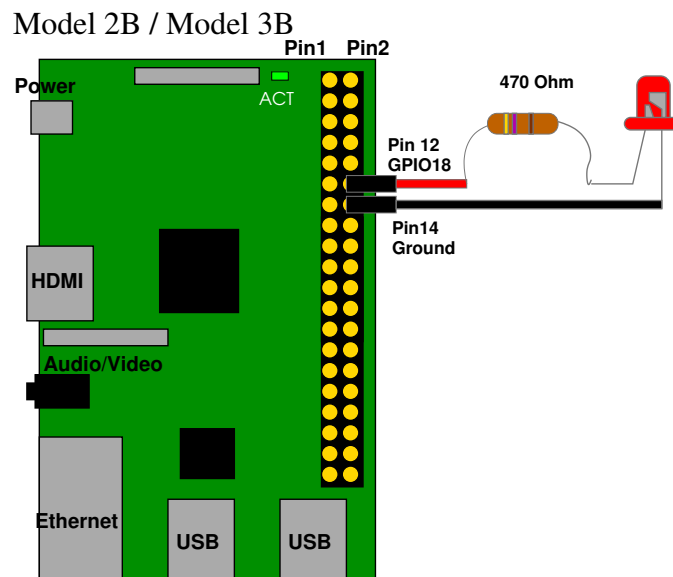

Figure 1: Raspberry Pi Layout
- The easiest way to do this is hook a 470Ω resistor and LED to GPIO18 (Pin12) and Ground (Pin14) as shown in Figure 1.